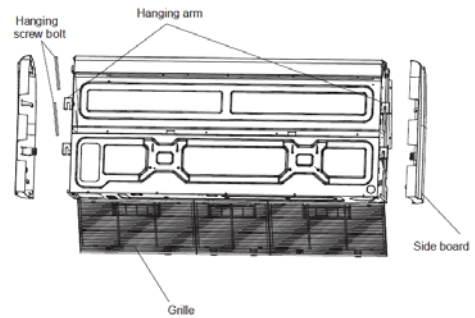

Fig. 15 — Remove the side boards and the grille
2. Remove the side boards and the grille (see Fig. 15).